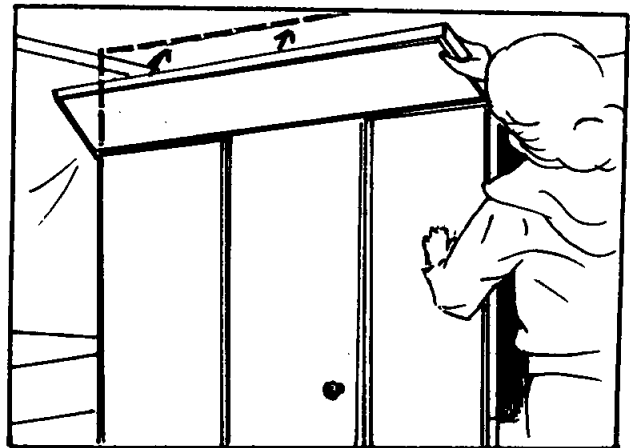

FIGURE 30
38. Raise the uppermost section of front wall to full vertical height and retain by fastening metal retainer rod into the clip attached to wall section. See Figures 30 and 31.
On Savannah™ model, it will be necessary to fold down top portion of the bathroom wall. Note Figure 30.